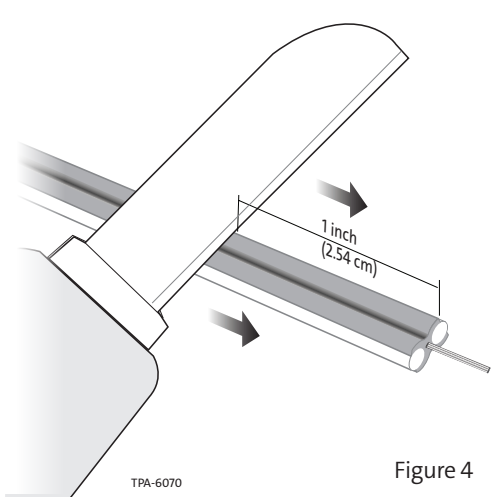

Figure 4
Step 3: Rotate the cable so that a flat side is facing up. Use a sheath knife or utility knife to cut the jacket away from the end of the cable (about 1 inch) to expose the dielectric strength elements from the top (Figure 4).